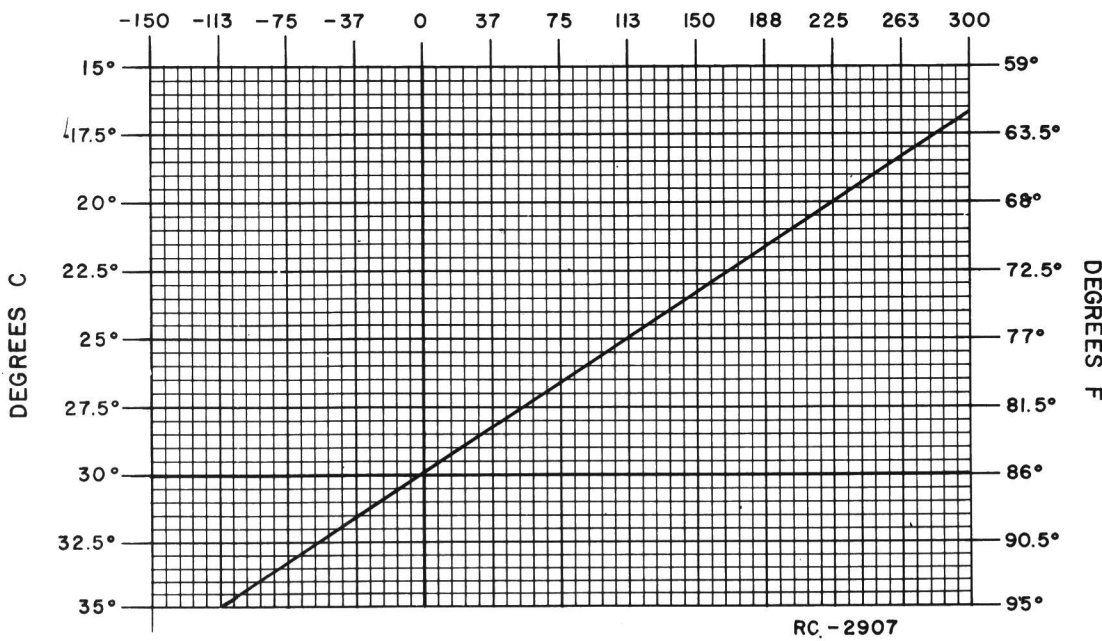

Figure 3 - Frequency Characteristics Vs. Temperature
First, check the frequency to determine if any adjustment is required. (Refer to frequency offset chart, Figure 3.) The frequency measurement requires equipment with an absolute accuracy that is 5 to 10 times better than the tolerance to be maintained. When adjusting the frequency, the entire radio should be as near as possible to an ambient temperature of 30° C (86° F).
To set crystal frequency using "beat frequency" method, the temperature should be at 30° C (86° F). If the temperature is not 30° C, then offset the "ON FREQUENCY" signal (at the receiver's input), as a function of actual temperature, by the frequency ERROR FACTOR shown in Figure 3.
- 2. Maintain the radio at 30° C (±5° C, -10° C) and offset the oscillator, as a function of actual temperature, by the frequency error shown in Figure 3.